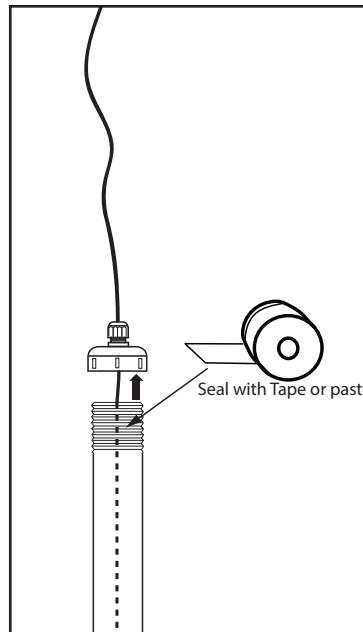

FIG. 26
- D) Seal top cap onto pipe (make sure cord grip is loose). See FIG 26.